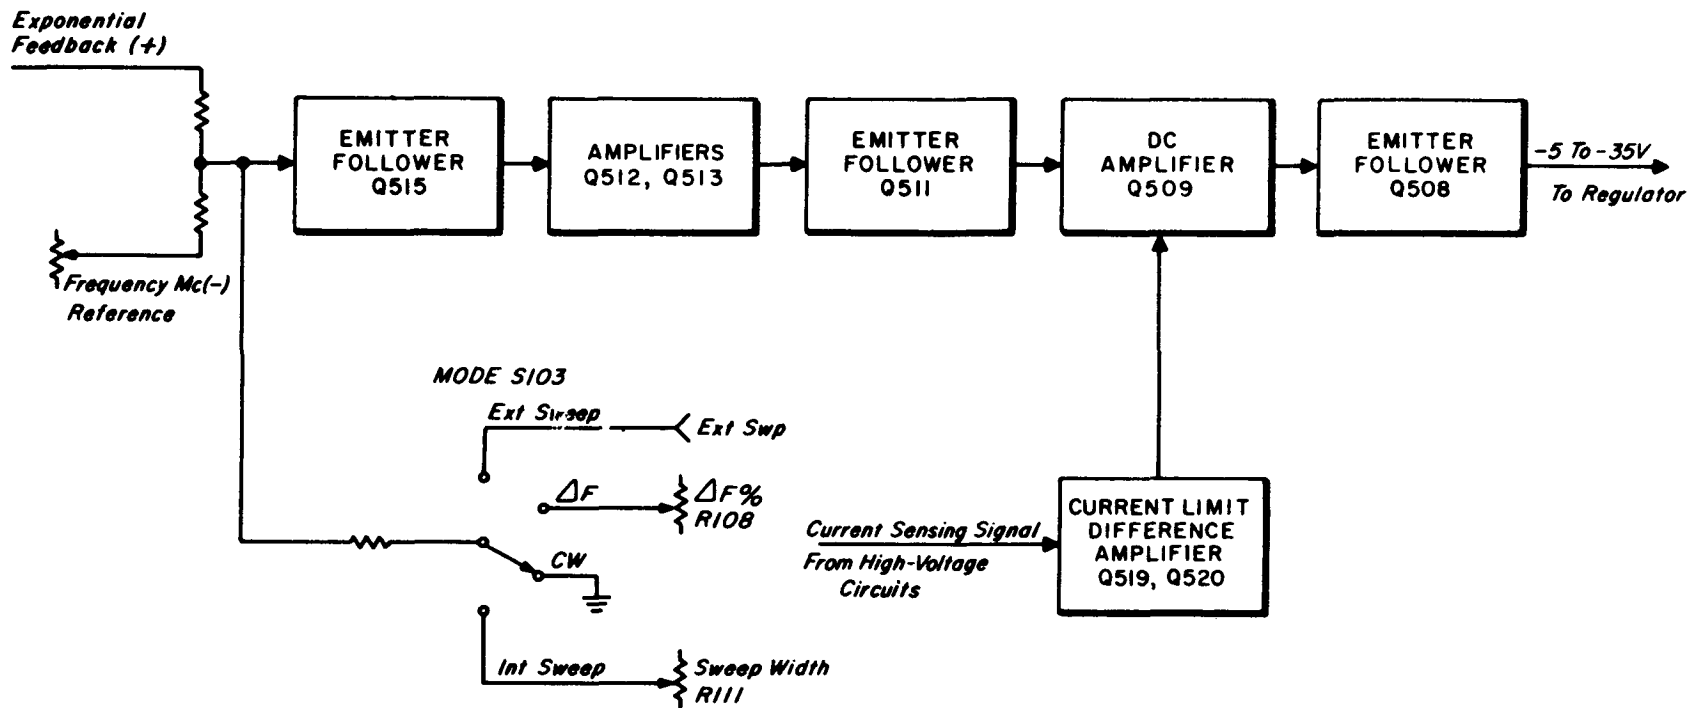

Figure 9. Regulator, Block Diagram
c. Regulator. The regulator (figure 9) senses any difference that exists between the voltage level preset by the FREQUENCY - MC control and the actual high-voltage output level. A voltage is generated in response to this difference, and this voltage is applied as a corrective signal to pass transistors Q701 and Q702.